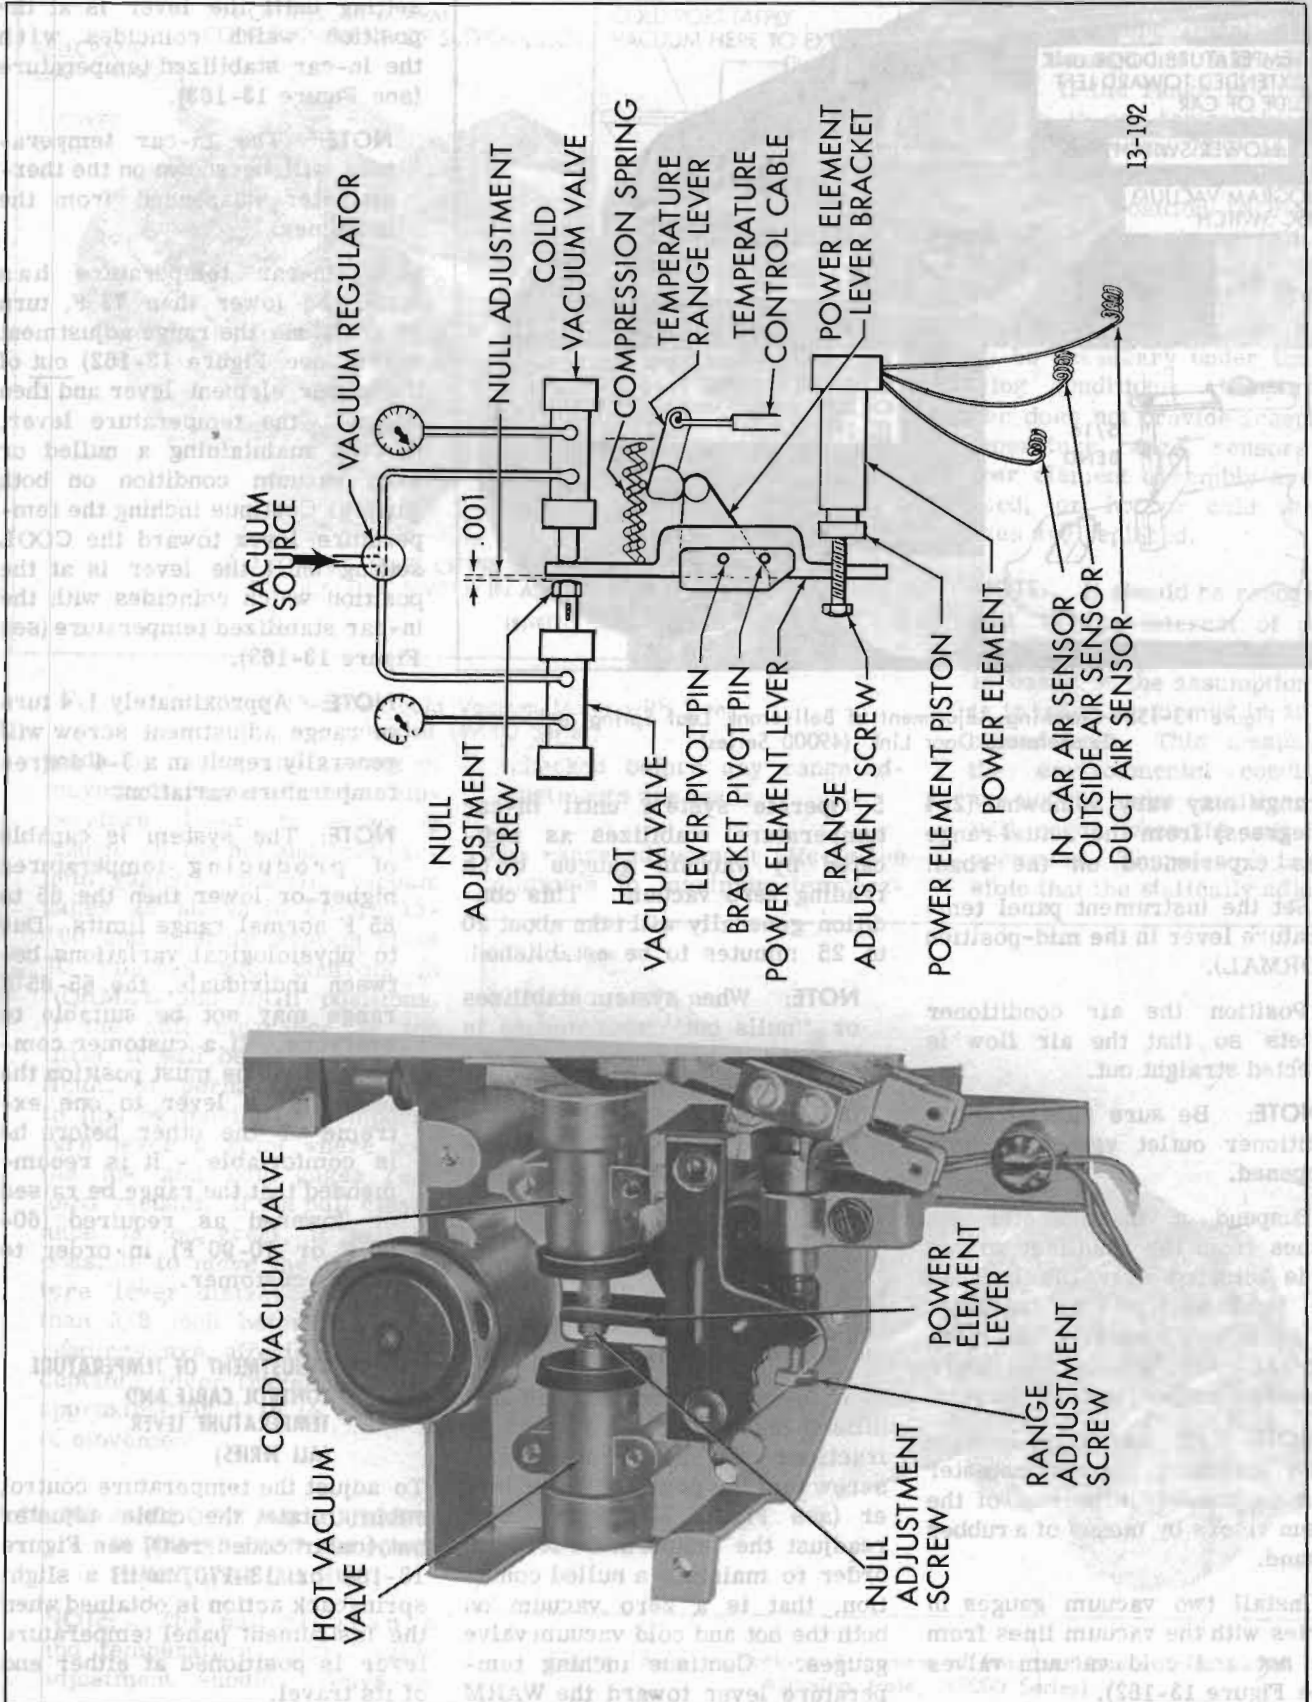

Figure 13-160—Hot and Cold Vacuum Valve Null Check and Adjustment Setup (All Series)
2. Connect two vacuum gauges into hot and cold vacuum valves as shown in Figure 13-160.
made by noting the amount of movement required of the temperature lever to effect a change on the hot and cold vacuum gages. Install vacuum gages as shown in Figure 13-160 and operate system about 10 minutes with controls in NORMAL and HIGH positions. If the null clearance is too little, it will be extremely difficult, or perhaps impossible, to find by moving the temperature lever a point where both the hot and cold gages read zero vacuum. If the null clearance is too great, it will be possible to move the temperature lever distances of more than 3/8 inch before the gage readings are affected. An acceptable lever travel would be approximately 3/16 to 1/4 inch of movement.